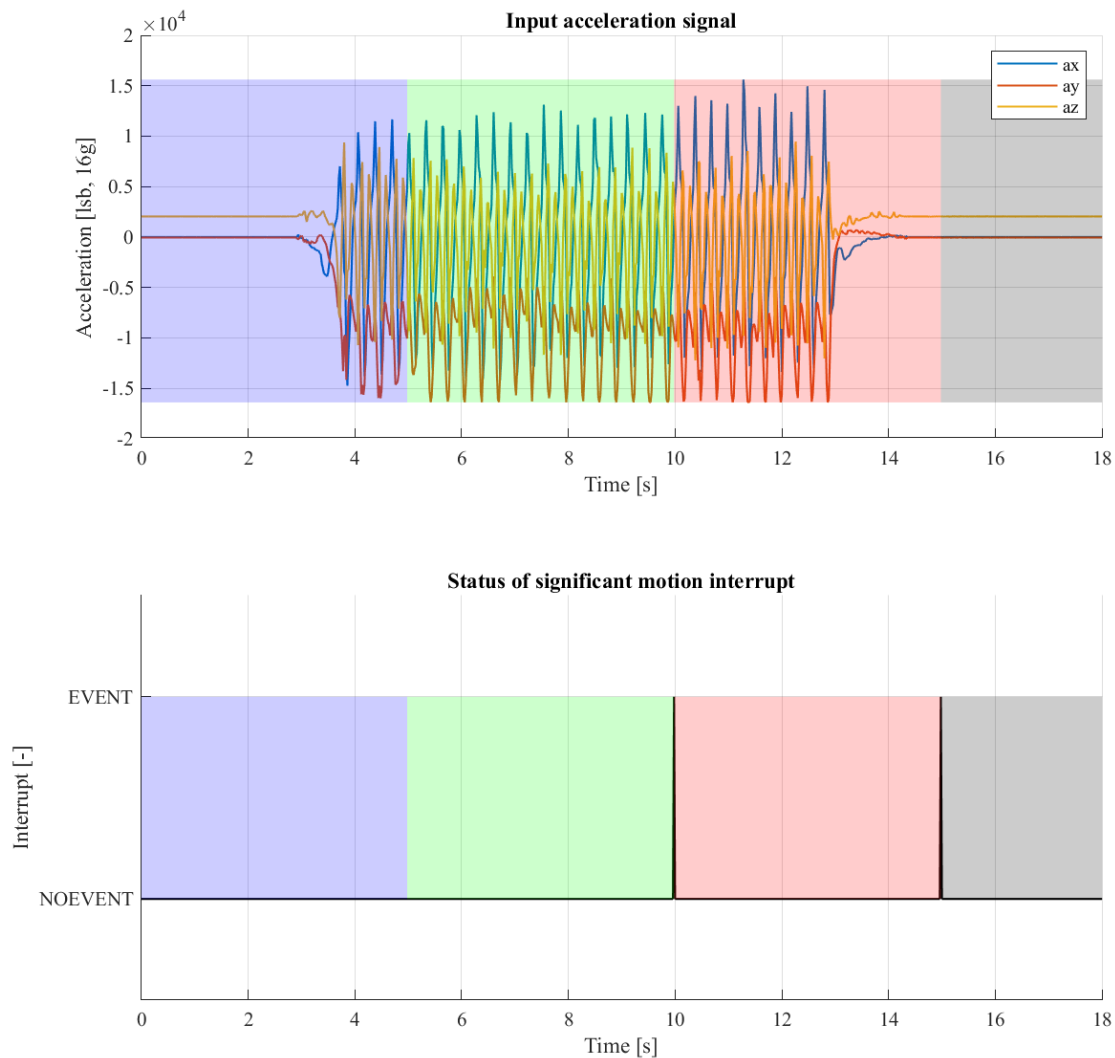

Figure 24: Significant motion interrupt detection behavior for walking use-case
Example An example for the behavior of the significant motion detection for a walking scenario is depicted in figure 24, where SIG_MOTION.block_size is set to 5 seconds (0x00FA).
1. Large initial part of segment as STILL with small part of segment as WALKING. (Blue segment 1 in figure 24)
2. Full segment as WALKING. (Green segment 2 in figure 24)
3. Initial large part of segment as WALKING with remaining being STILL. (Red segment 3 in figure 24)